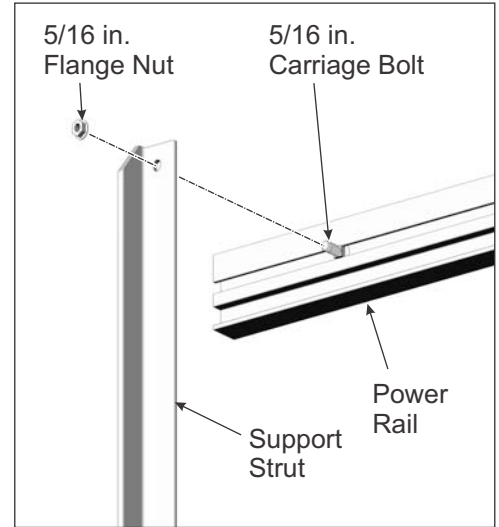

Figure 5-2: Attaching Support Strut
- B. Position and secure the Support Strut to carriage bolt using a 5/16 inch flange nut. For now, finger tighten only. (See Figure 5-2)